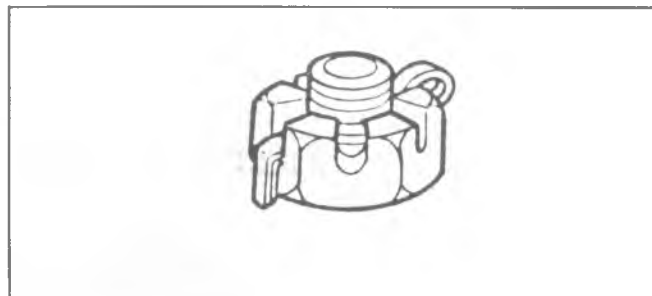

Fig. 3C-28--Cotter Pin Installation
3. Install J-23742 between the ball studs as shown in Figure 3C-27.